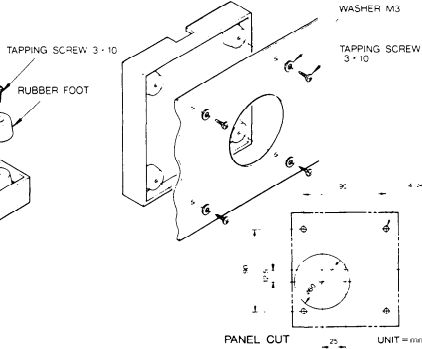

Figure 3.10 PROGRAMMER MOUNT ASSEMBLY
31. The Programmer Mount Assembly (catalog no. IC610PRG190) can be used when installing the programmer on the outside of a panel or console, or can be used as a table top stand for the programmer. Figure 3.10 shows how to install this assembly.